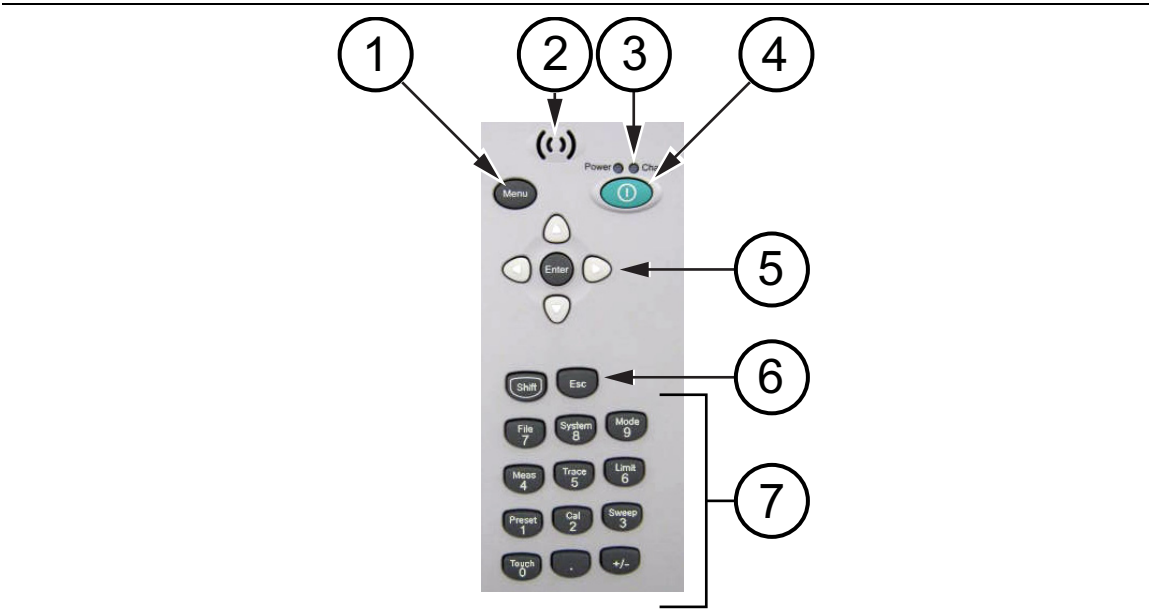

Figure 2-4. Front Panel Layout
(item 1 in Figure 2-4)
(item 3 in Figure 2-4)
(item 4 in Figure 2-4)
(item 5 in Figure 2-4)
(item 6 in Figure 2-4)
Number Keypad**(item 7 in Figure 2-4)**
+/- Key**(item 7 in Figure 2-4)**